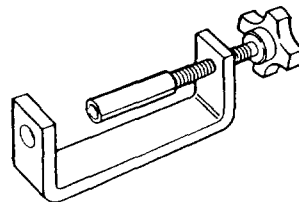

Fig. 2
5. Remove locknut (17) from slave piston adjusting screw (Auto-Lash®) (18) and back out screw until the slave piston is fully retracted.
6. Install the slave piston tool P/N 017397 (Fig. 2) with the adjusting screw fitted into the hole in the tool.
7. Compress the slave piston spring and remove the retaining ring (26).